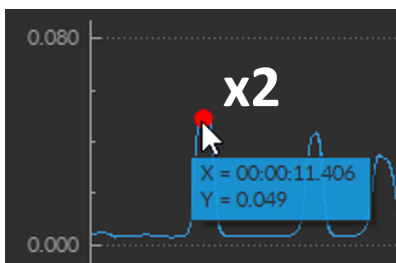

Figure 12.33: Instantaneous Value
- **Instantaneous point** - *Double clicking* (Fig. 12.33) on any element of the trace within a graph adds a red dot over that section. Mousing over the dot with the cursor displays the X- and Y-coordinates of the data point. These data points are strictly a visualization tool and their coordinates will not be saved with the rest of the data. To remove a created dot, double-click on it a second time.